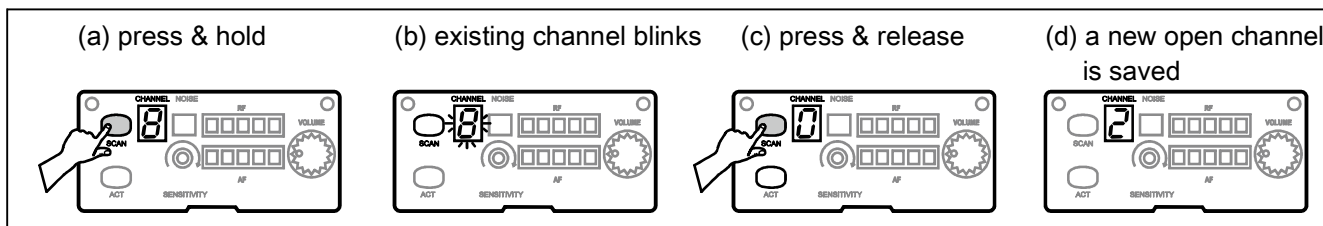

Fig. 5
(1) Scan Automatically for a Non-interference Receiver Channel:
Press and hold Channel (CH) button **A6** to perform a channel scan. Existing channel blinks to denote it is ready to accept parameter changes. During blinking, press and release Channel button to scan and stop for an open channel. This new channel is now saved. If Channel button is not pressed within six blinks, it stops blinking and reverts back to the existing channel, Fig. 5.